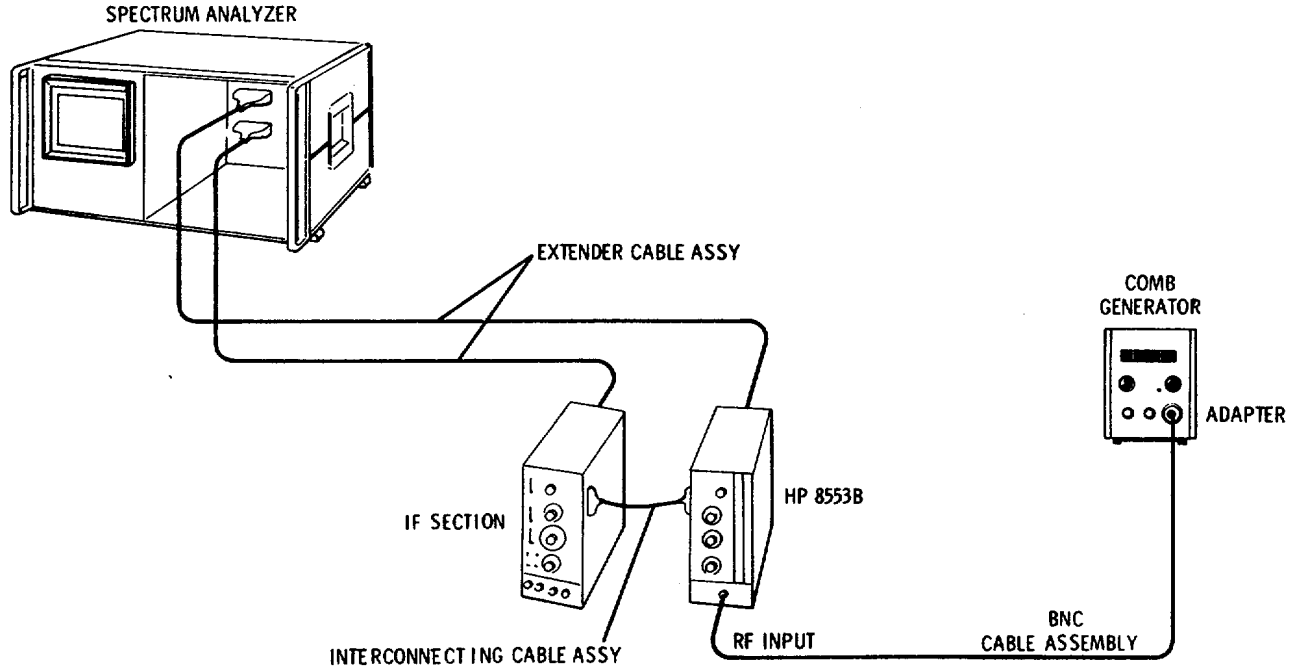

Figure 5-15. APC Tuning Stabilizer Final Check Test Setup
1. Connect the test setup in Figure 5-15 and make the following control settings: